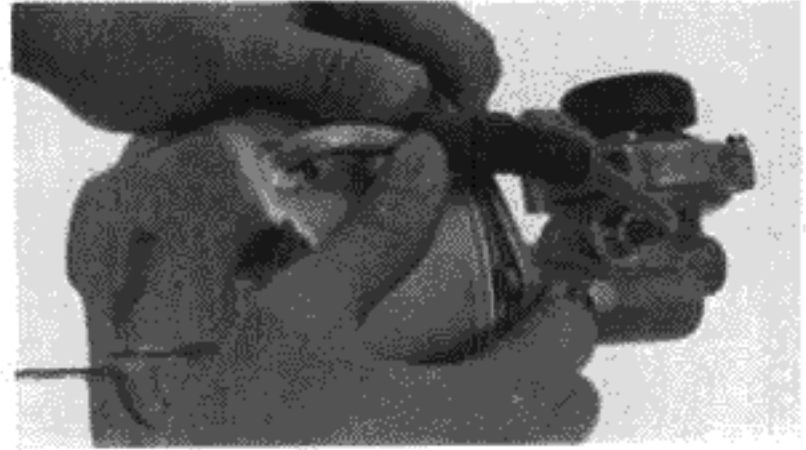

Fig. 11A-30 Vacuum Hose
**NOTE:** The following parts are the only replacement parts available for the booster. If any parts other than these are defective, the entire brake booster must be replaced. (See Fig. 11A-31.)